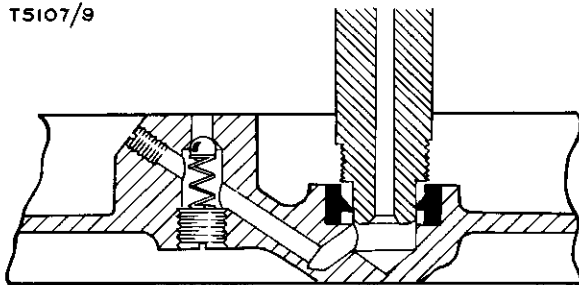

Fig 9 Non-return valve
30. The feed line non-return valve (Fig 9) consists of a ball and spring and is located in the inner timing cover. After unscrewing the retaining plug, the valve spring and ball can be removed for examination. Should there be any doubt about the condition of the valve components renew them.